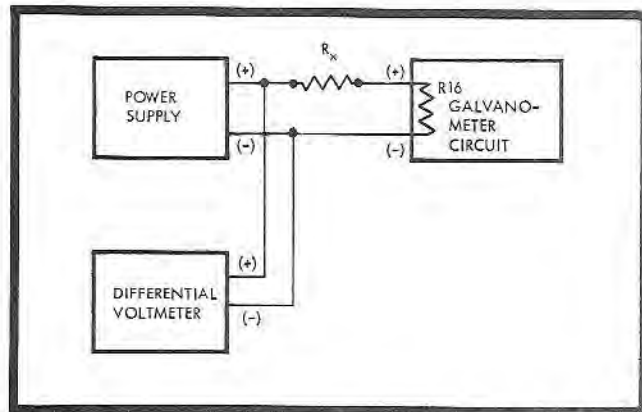
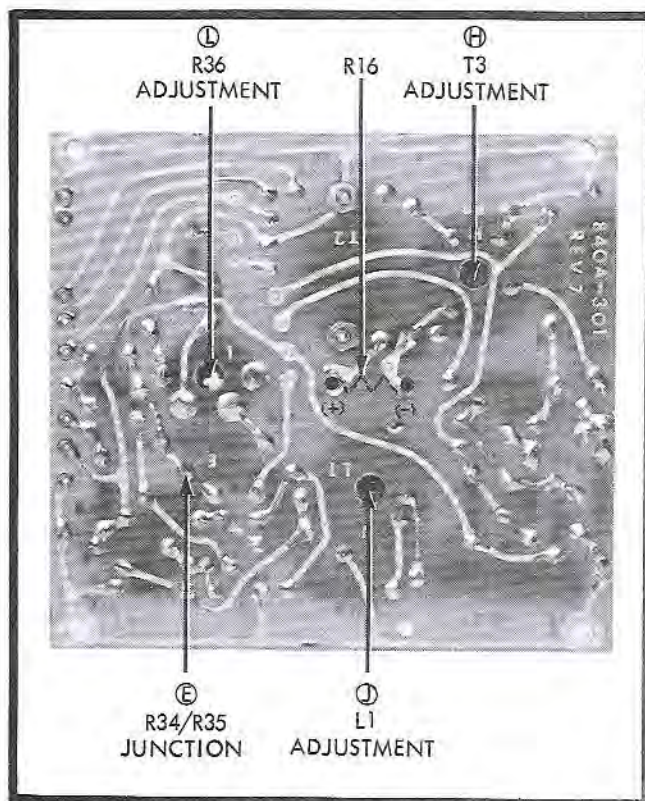

Figure 4-3. ELECTRONIC GALVANOMETER CALIBRATION
Figure 4-4. TUNED CARRIER AMPLIFIER ADJUSTMENTS
4-16. **TUNED CARRIER AMPLIFIER ALIGNMENT.** Remove the side cover on the galvanometer side of the Model 540B. Refer to Figure 4-4 for adjustment and connection locations. Connect equipment as shown in Figure 4-3 and use a 1 megohm \pm 1% resistor for R_x . Proceed as follows:
4-17. **TUNED CARRIER AMPLIFIER GAIN.** Check and readjust, if necessary, the mechanical zero of the GALVANOMETER meter. Connect the equipment as shown in Figure 4-3 and use a 10 megohm \pm 1% resistor for R_x .
- d. Connect the 885 differential voltmeter to either end of R16 and one of the T2 mounting screws (see Figure 4-4).